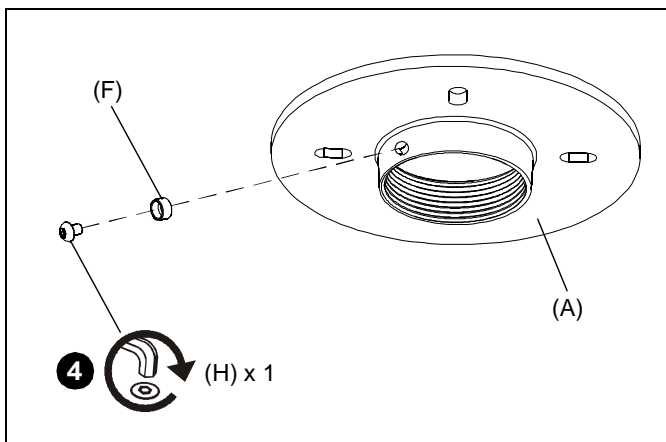

Figure 5
4. **OPTIONAL:** Use one 10-24 x 1/4" button head security screw (H) and one security spinner (F) instead of the set screw (L) to add additional security to the ceiling plate installation. (See Figure 5)